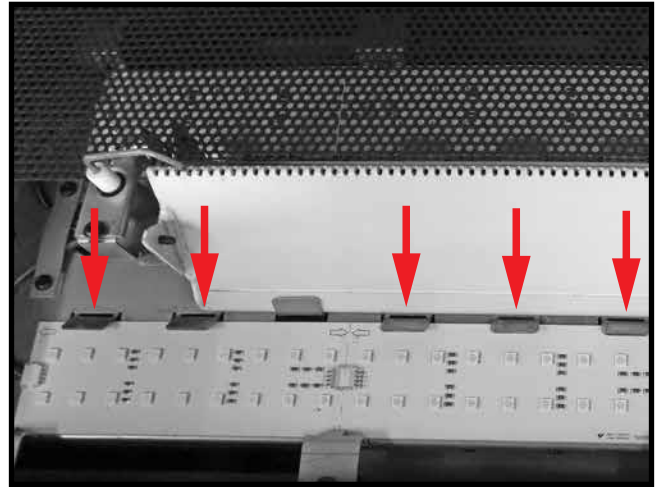

Figure 61: LED strip hold down tabs.
5. The LED sections and rows are held in place by hold down tabs (Figure 61). These tabs can be lifted up so that the LED section can be removed.